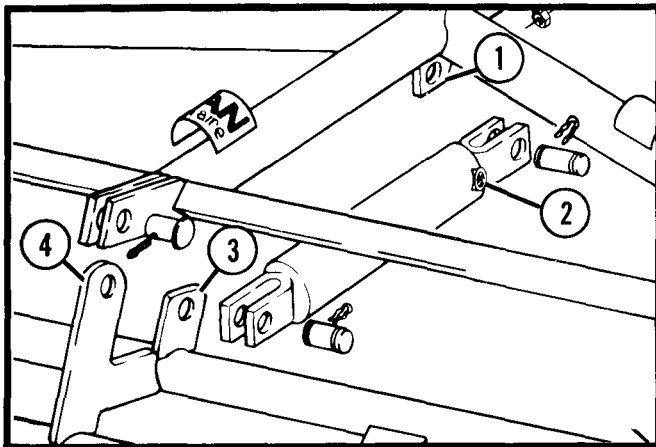

Figure 2
4. Mount the cradle onto the frame using the three clevis pins (Part No. 548473). Insert the cradle lugs in between the mounting tabs on the frame (See Figure 2). Beginning in the middle of the cradle, install a clevis pin and secure with a cotter pin (Part No. 120310). Install and secure the remaining clevis pins.
- The hydraulic cylinder has an opening for a hose attachment. The cylinder must be installed with this opening positioned toward the front of the unit (See Figure 2).
6. Using the other clevis pin (Part No. 548603), attach the other end of the cylinder to the lug on the cradle. Secure the clevis with hair pins (Part No. 548602) (See Figure 2).